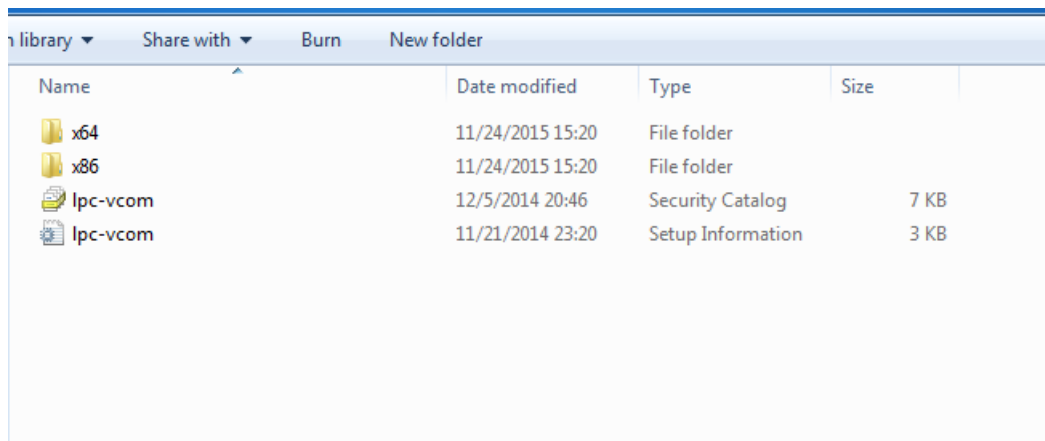

Fig. 6.3. Device driver folder content
- Select “x86” driver for a 32-bit machine or x64 for a 64-bit machine. If not sure, select a root folder (folder in which x64 and x86 lay inside, as in Fig. 6.3).